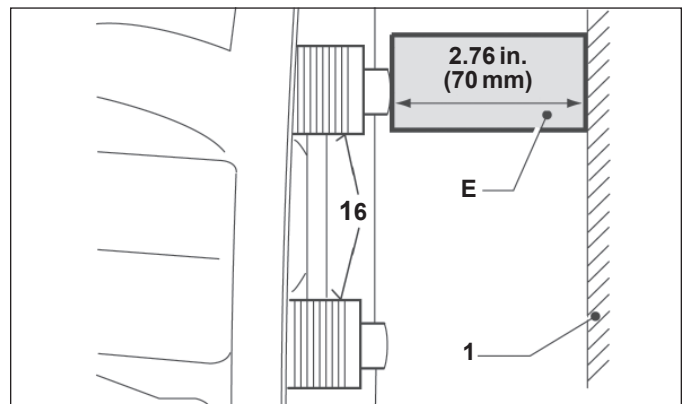

Figure 51 – Use of a Spacer (off-vehicle inspection)
If the work is being carried out at a workbench, the technician may insert a 2.76 in. (70 mm) spacer (See callout “E” in Figure 51) into the caliper (1) to help avoid the loss of thread engagement.